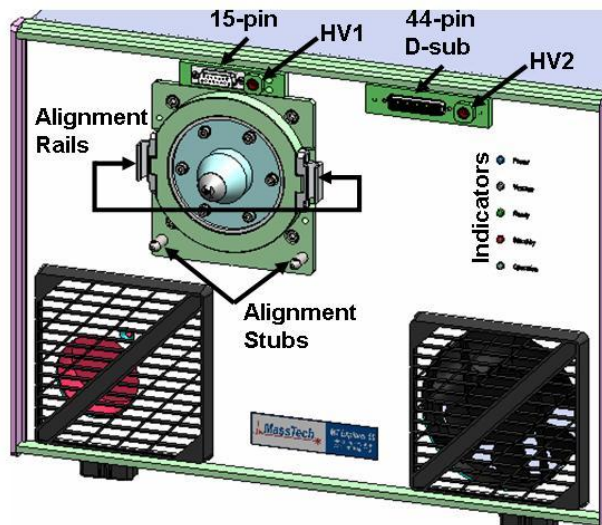

Figure 3.2: Front panel.
Figure 3.2 is a picture of the interface front panel of the ITMS:
1. Connect the power cord (A) to a standard 110-120 VAC wall outlet (or as specified).
2. Set up the laptop PC (provided with the instrument) and then connect the Ethernet cable to the PC and the ITMS (C).
3. Connect an exhaust line to the back of the ITMS (B). The exhaust line should vent to a chemical hood or other appropriate ventilation location.
4. Flip the power on switch (A) to the “ON” position.
5. Wait until the operational vacuum is reached, as indicated by the front panel indicator LEDs (refer to Figure 3.2). This process should take approximately 10 minutes.